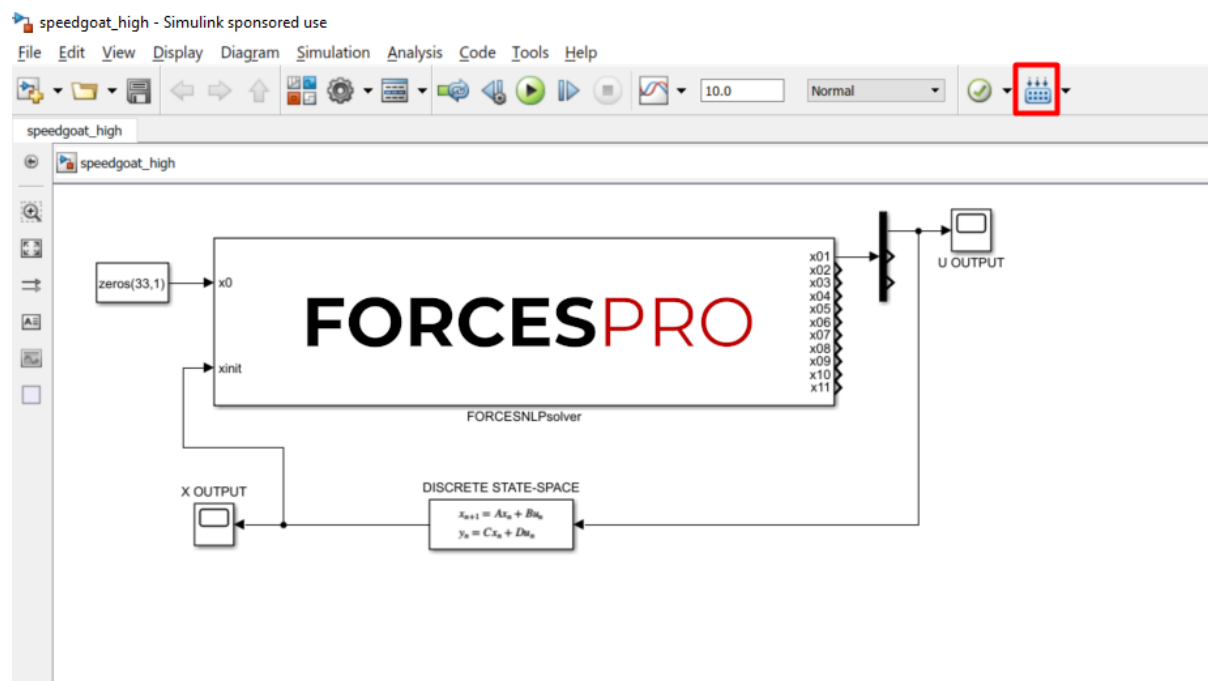

Figure 13.74: Compile the code of the Simulink model.
15. (Figure 13.74) Compile the code of the Simulink model. This will also automatically load the model to the connected Speedgoat platform.